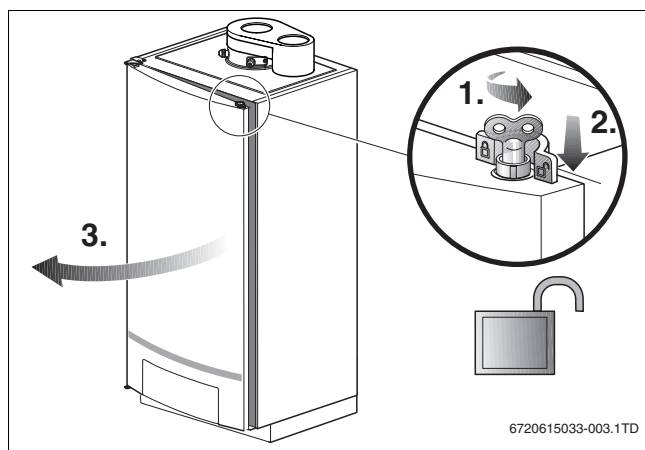

Fig. 2 Opening the boiler door
- Open the boiler door by turning the vent key through 1/4 rotation (→ fig. 2).